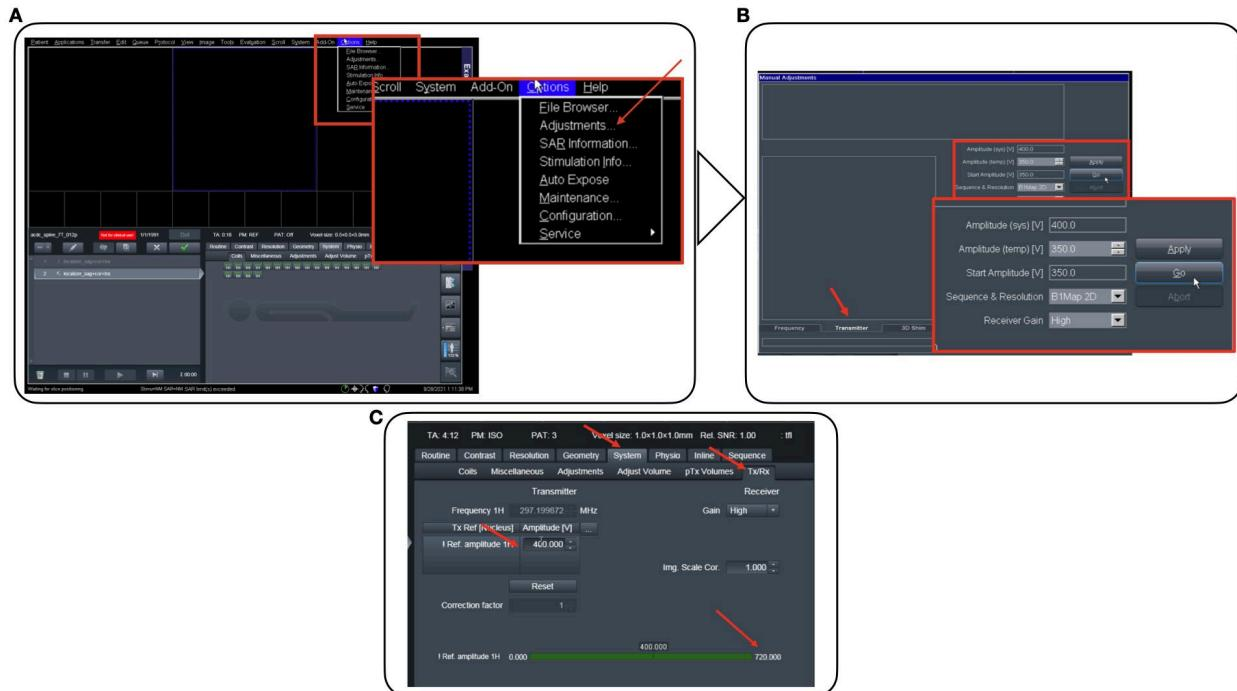

Figure 2. Manually setting the reference voltage and finding the hardware limit.
- Adjust the Reference Voltage as described in the color-coded boxes and Figure 2 below
- Go to *Options > Adjustments > Transmitter* and hit “go”. See Figure 2 (a).
- Under *System > Tx/Rx > Ref. amplitude 1H*, check that the amplitude has been updated to $\text{RefVol}_{\text{Localizer}}$, and update it if it has not. See Figure 2 (b).
- Under *System > Tx/Rx > Ref. amplitude 1H*, check the maximum voltage that can be played out, note it down as $\text{RefVol}_{\text{HW_limit}}$, and fill in Table 1. See Figure 2 (c).
- must be repeated for every subsequent scan. See Figure 2 (b).
- Go to *Options > Adjustments > Transmitter* and hit “Go”. See Figure 2 (a).
- Under *System > Tx/Rx > Ref. amplitude 1H*, check that the amplitude has been updated to $\text{RefVol}_{\text{Convention}}$, and update it if it has not. See Figure 2 (b).